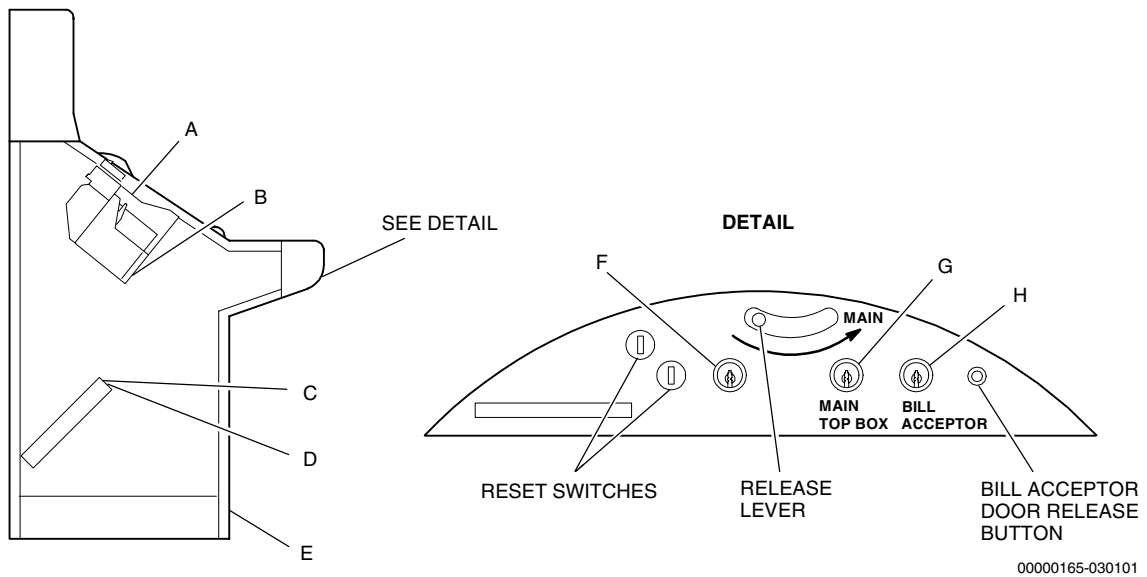

Figure 3-18. Lock Specifications – S2000 Series Slant-Top
- Lock Specifications – Figure 3-18 and Table 3-15